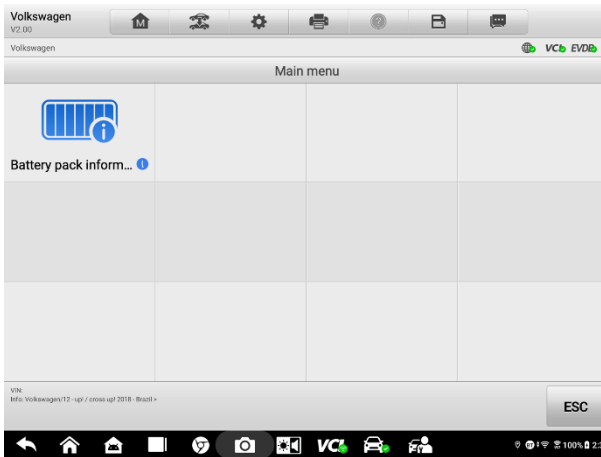

Figure 5-10 Main Menu on Vehicle Mode
1. Tap **Battery Pack Information** on the Main Menu (Figure 5-10).